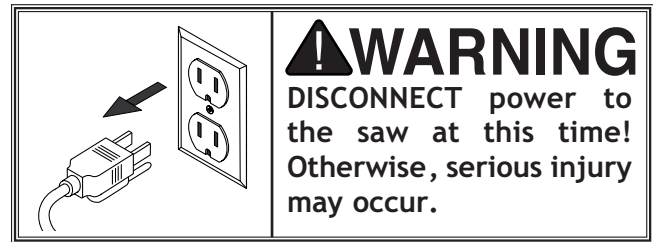

Figure 52. Setting blade to 90°.
4. Rotate the wheel so the blade evenly touches the 90° angle gauge, while the gauge evenly touches the surface of the table, as shown in Figure 52.